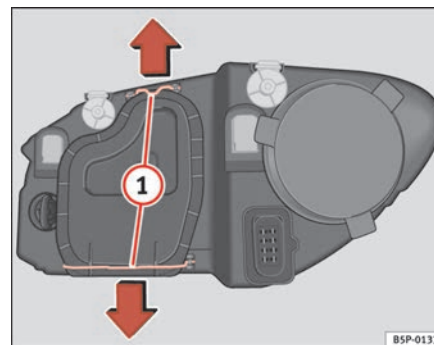

Fig. 187 Dipped head-lights
- Remove the loops ⇒ page 261, fig. 187 ① in the direction of the arrow and remove the cover.